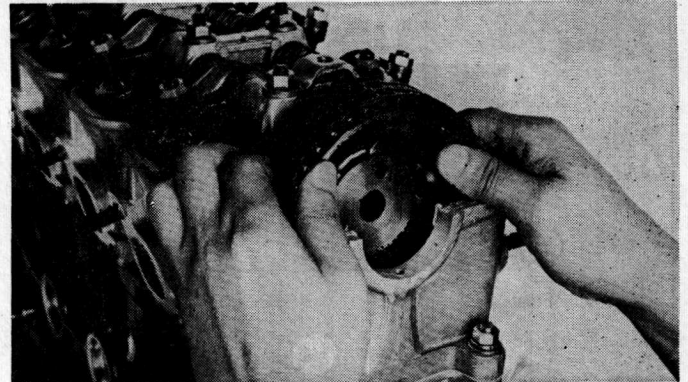

Fig. 33 Removing the Camshaft Sprocket
- (2) Remove the camshaft sprocket, together with the timing chain, from the camshaft. (Fig. 33)